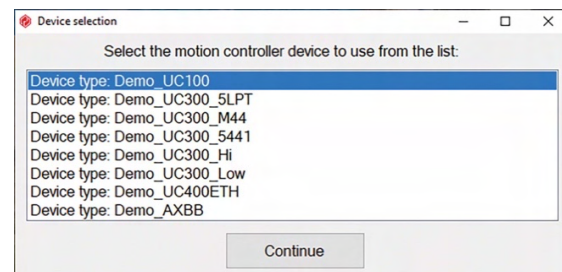

Figure 9-3
2. If you see a screen asking you to select the motion controller (shown in Figure 9-3), either you opened the software before the PC / CNC machine connection was established or something is blocking the PC/CNC machine connection. Close the UCCNC application, wait a few seconds, and reopen the application. If the screen appears again close the UCCNC application and turn the CNC machine off for five seconds. Power the machine back on and wait 20 seconds for the PC/CNC connection to be established. Open the UCCNC software again.